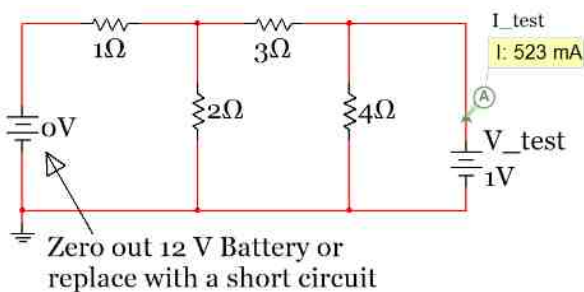

**Figure 2.62: Sub-Problem 2 -  $I_N$  Calculation – Used in Method 2 to determine  $R_{th} = V_{th}/I_N$**
- The Mesh Matrix in Figure 2.62 can be solved to give  $I_2 = 2.182 \text{ A}$  and  $I_2 = \underline{I_N = 2.182 \text{ A}}$